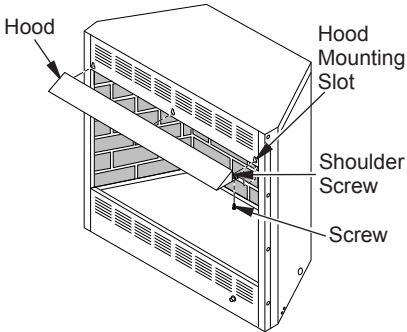

Figure 11 - Installing Fireplace Hood
3. Hold hood in place. Insert two black Phillips screws through bottom of hood and tighten. See Figure 11, page 10.